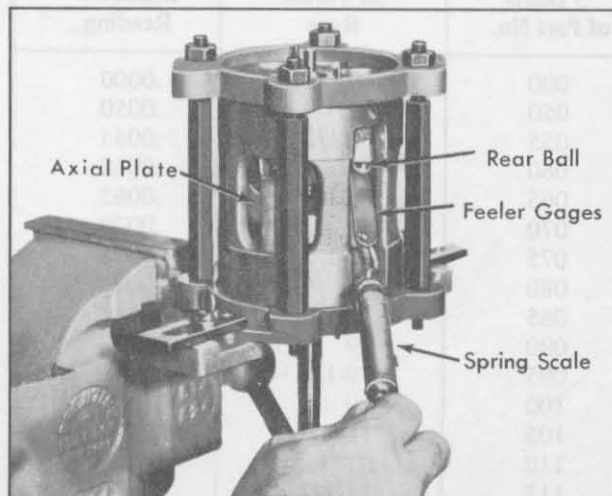

Fig. 1-87 Gaging Rear Piston Ball
c. Pull on spring scale to slide feeler gage stock out from between ball and axial plate, and note reading on spring scale as feeler gage is removed, Fig. 1-87. Reading should be between 4 and 8 ounces.